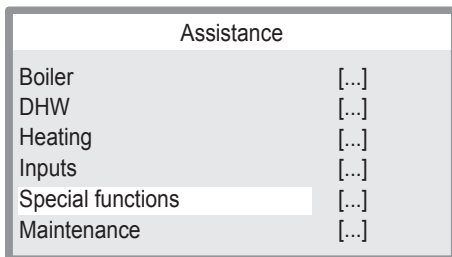

Figure 9.7
- 16 Press button "D" (Figure 9.4) to access the selected menu (Figure 9.7).